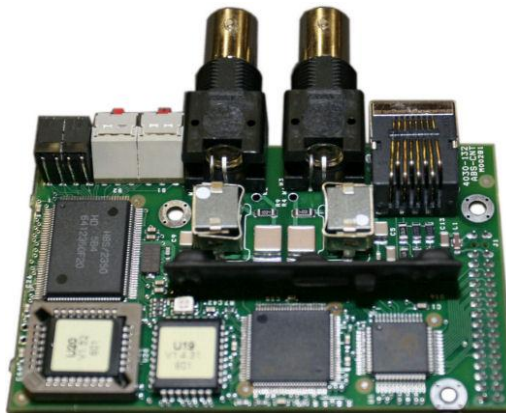
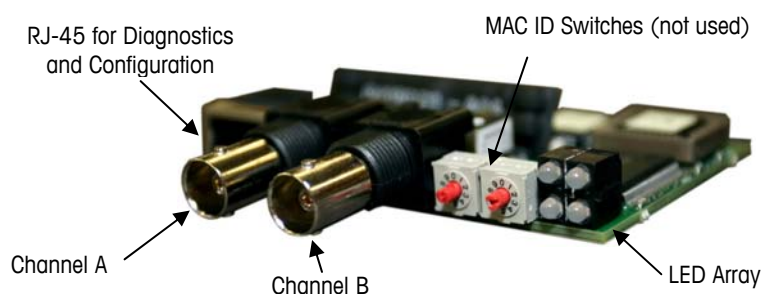
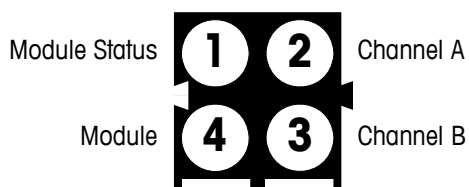

Figure A-57: ControlNet PLC Module
Figure A-58: ControlNet PLC Module Connections and Components
Figure A-59: ControlNet Status Indicator LEDs
The ControlNet PLC Module (Figure A-57, Figure A-58) connects to the ControlNet network via one or two coaxial cables (Figure A-50). Channel B is redundant with Channel A, and is not used unless ControlNet detects no signal on Channel A. Note that the module's address is set in software, and the MAC ID switches indicated in Figure A-58 are not used.
- ❗ Do **not** plug an Ethernet cable into the RJ-45 connector shown at left in Figure A-58. Damage to the IND780 may result.
Figure A-59 shows the array of status indicator LEDs on the ControlNet card (see also Figure A-58).